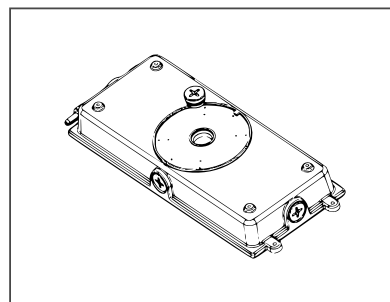

Figure 2
2. Unscrew the cover of the entry hole and remove it. (Figure 2)